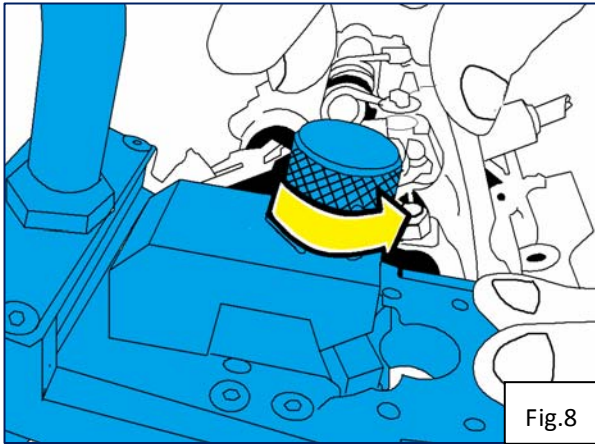

Fig.8
6. Turn the knurled knob to loosen the valve spring, and the installation is completed. (Fig.8)